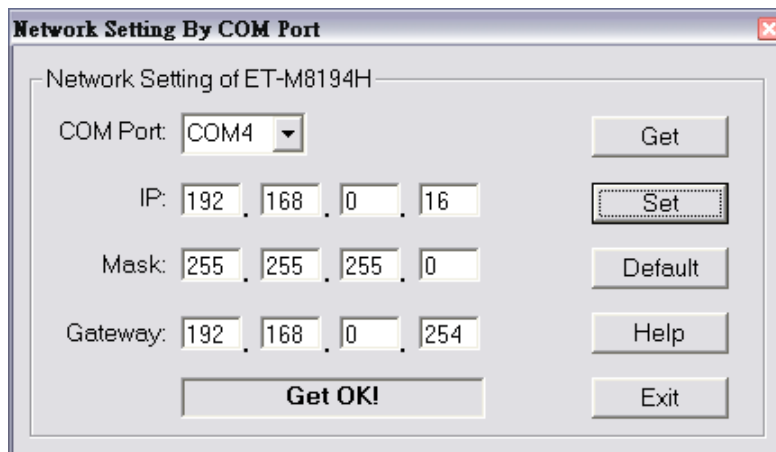

Figure 5: User Interface for ET-M8194H Ethernet configuration via RS232
**Step 4:** Execute the EzMove Utility and open the “Network Settings by COM Port” dialog (Figure 5). ([Setting] → [ET-M8194H Setting] → [By COM Port] → [Network])